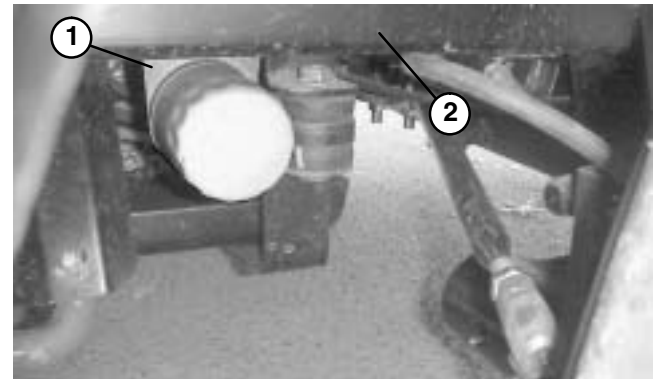

Figure 10
6. Gaining access from under operator seat, loosen two (2) flange head screws and flange nuts that secure oil filter adapter to right hand frame rail (Fig. 10). Slide adapter with oil filter away from frame.
9. Position oil filter adapter with oil filter to the right hand frame rail. Install two (2) flange head screws and flange nuts and secure oil filter adapter to machine (Fig. 10).